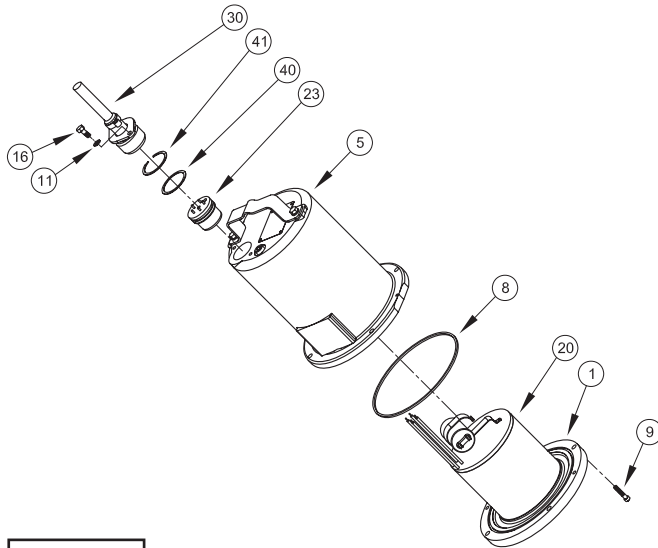

FIGURE 3
To examine or replace the motor (20), capacitor (21, single phase units), and bearing (6), drain oil from motor as outlined in paragraph F-1.2. Disassemble volute and impeller as outlined in paragraph F-2.1 and disassemble shaft seal as outlined in paragraph F-4.1. (See Figure 3, 4, and 11)